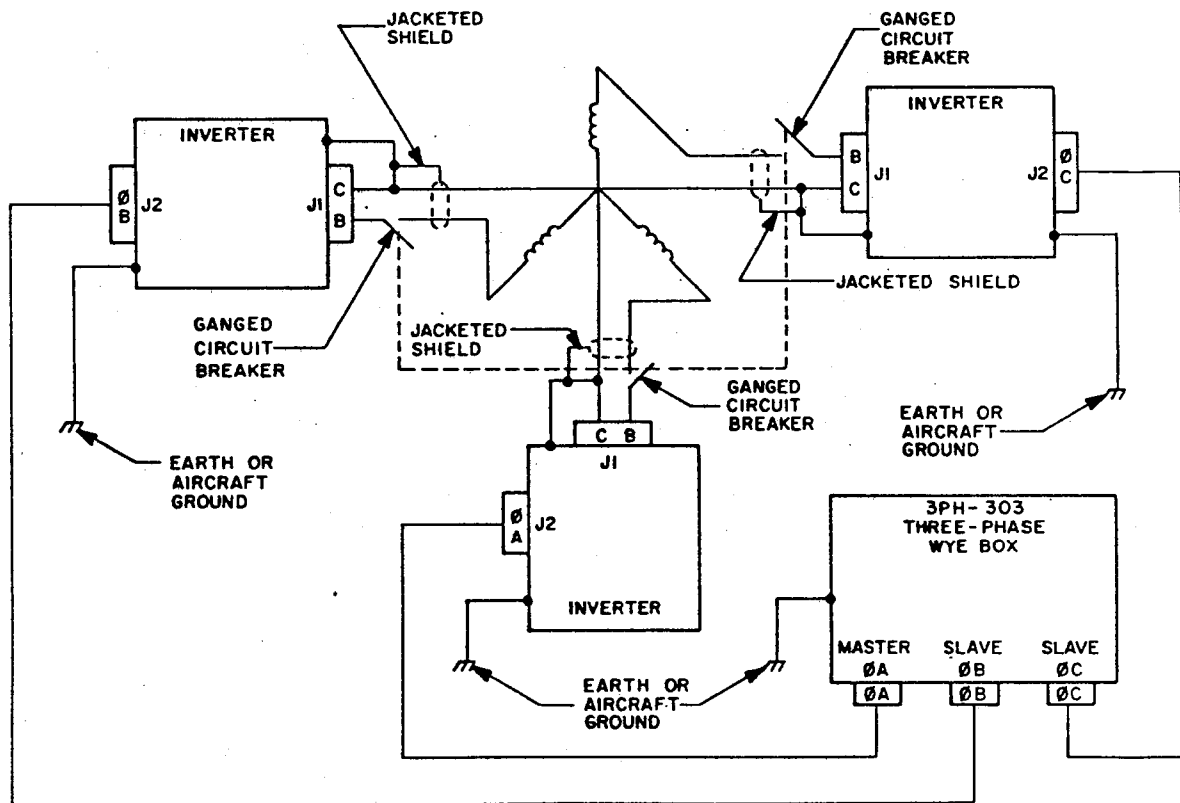

FIGURE 6
e) Three Phase Configuration - Refer to Figures 6 and 7
(2) Output Cable - Refer to Figure 6